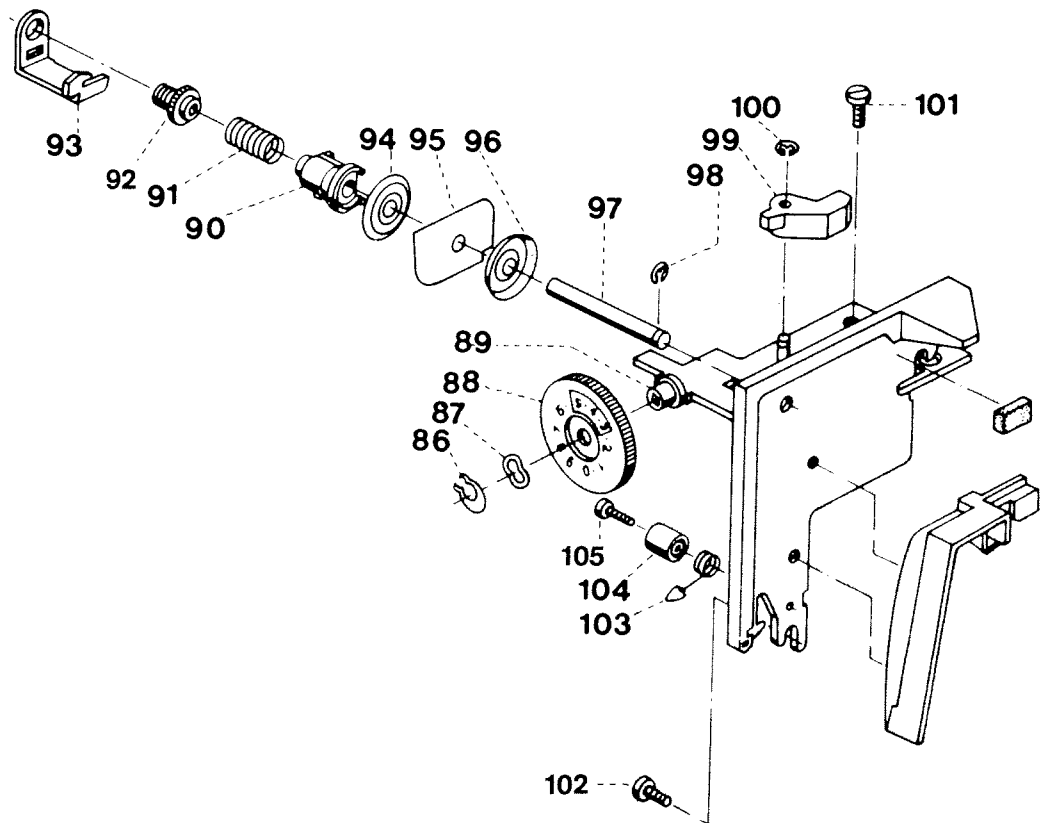

Fig. 22
- Remove circlip 86 (see Fig. 22).